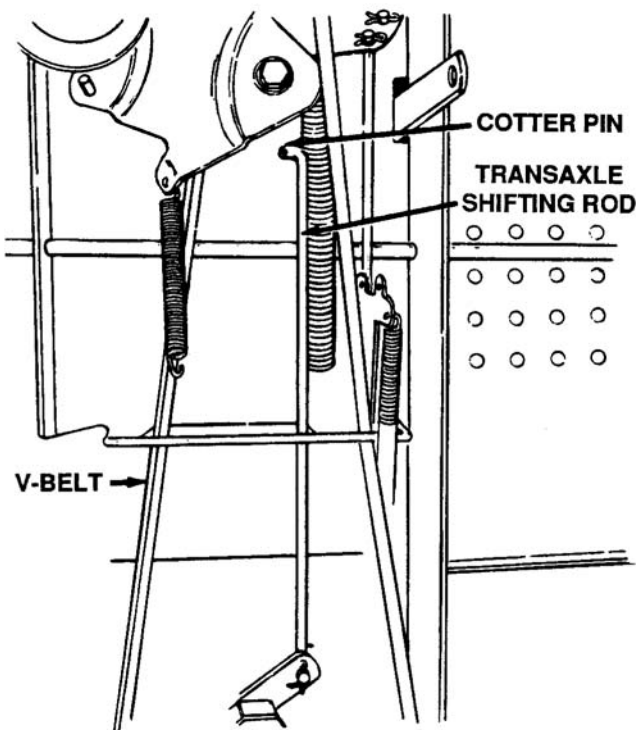

Figure 7-60. Removing Transaxle Shifting Rod
10. Remove the cotter pin from the transaxle shifting rod and pull it out of the bracket. See Figure 7-60.